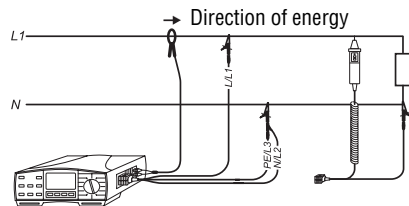

Figure 94: Connection of Test Leads and Clamp Adapter
- ▶ Connect the desired test lead to the 4-pole measurement connector (17) of the UNITEST EUROtest. Either use the 3-pole test lead or COMMANDER 2 (available as accessory Cat. No.1223). Also connect the desired clamp adapter to both measurement connectors C1 (14) and C2/P (15), please refer to Figure 94.
- ▶ Switch on the UNITEST EUROtest using the key 'ON/OFF'. Turn the rotary switch 'Measurement Function' to the function (6) Power/Energy.
- ▶ Connect the test leads and the clamp adapter to the UUT in accordance with Figure 94. Open the clamp adapter and use it to surround the UUT conductor to be measured. If desired, this connection information can directly be retrieved on the measurement instrument using the key 'HELP'. Repeated pressing of the key 'HELP' indicates the various options for connection.